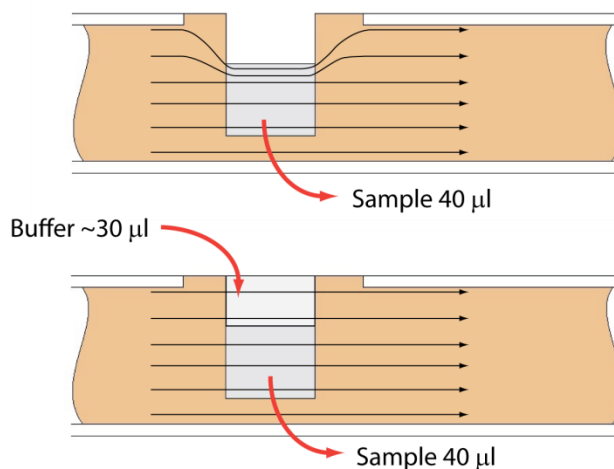

Figure 11.1. An illustration of the electrophoretic effect on a DNA sample when a sample well is not completely filled.
Proper sample loading is critical for best performance of BluePippin cassettes. For maximum reproducibility and accuracy, the sample should travel through the central section of the gel column, and should be bounded on all four sides by uniformly conductive media – either gel or electrophoresis buffer. The goal of the loading procedure is to produce this geometry in the sample loading well, as illustrated in the bottom section of **Figure 11.1**. Properly prepared samples will be 40 μ l in total volume consisting of 30 μ l of DNA mixed with 10 μ l of BluePippin internal standard mix or loading solution. The loading solution contains concentrated Ficoll as a densifying agent (see the Section 6 on Sample Preparation for details), and therefore the samples will sink and form a high density layer beneath the electrophoresis buffer when pipetted slowly into the sample wells. If there is insufficient conductive buffer over the sample, the electrophoretic forces lines will curve upward as the sample exits the well (see **Figure 11.1**, upper section), and the sample will be drawn to the top of the cassette where it can travel out of the gel into the gap between the gel column and the plastic top of the channel. Sample moving in this gap will travel at a different rate than the sample inside the gel column, and will lead to elution of undesired size fractions in the eluted material. In such cases, the contaminating DNA will usually (but not always) be higher in molecular weight than the selected DNA.
2. **Remove 40 μ l of buffer from the first sample well, and load 40 μ l of sample (or marker) into that well.** Take care not pierce the agarose with the pipette tip. There is gel on all sides and bottom of the sample well. In addition, there is an agarose “chimney” surrounding the top of the sample well that protrudes up through the cassette cover (see **Figure 11.1**). When removing buffer, some users find it useful to immerse the pipette tip just below the surface of the buffer and follow the liquid level down with the tip as the buffer is removed. When buffer removal is completed, there will be ~30 μ l of buffer left in the well. When adding sample, place tip of pipette just below the surface of the buffer, and follow the liquid level up with the tip as the well fills. Don’t be concerned if the sample well slightly overfills. The density of the sample will allow it to sink before it can flow out of the well.